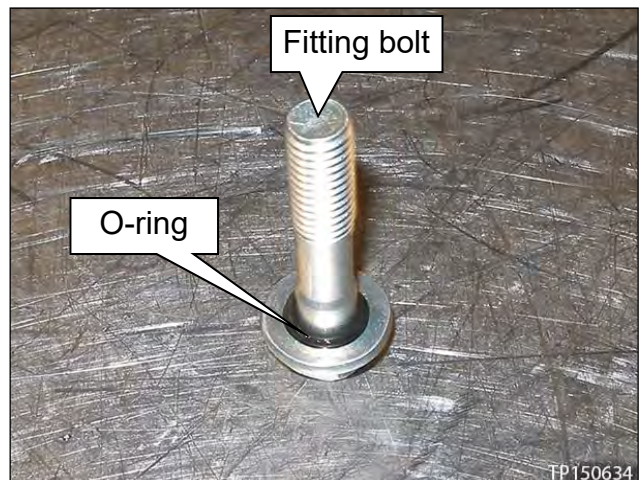

Figure 61
42. Place a new O-ring on the fitting bolt, and then coat the O-ring with CVT fluid (Figure 61).